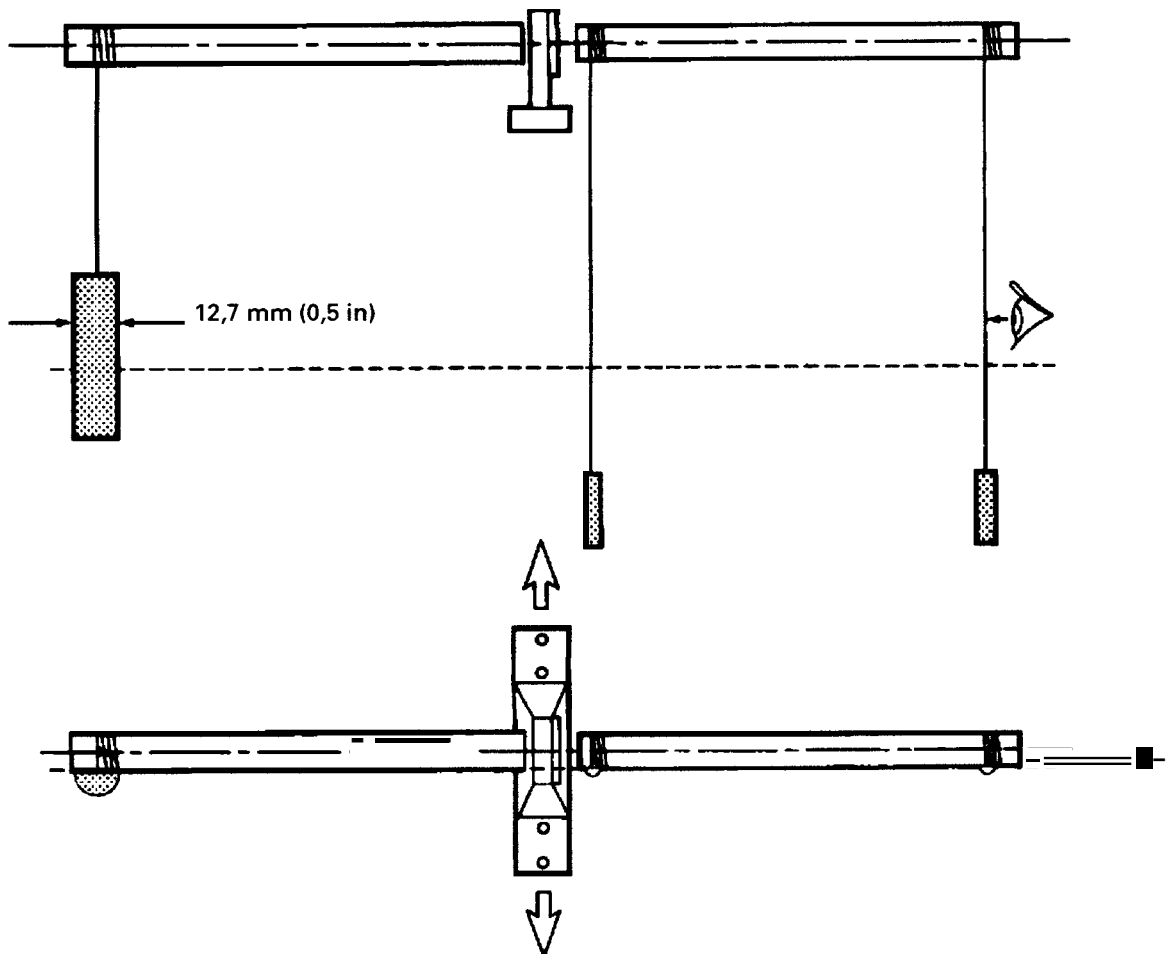

Fig. 1
1. Front section – behind gearbox output coupling, 12,7 mm (0.5 in) diameter weight (1 Fig. 1).
2. Rear section – immediately behind center bearing (2 Fig. 1).
3. Rear section – in front of differential flange (3 Fig. 1)
- Viewed from the rear with the rear 'plumb line' coincidental with the outside diameter of the front weight, the center 'plumb line' should align with the rear 'plumb line' (4 Fig. 1).
- Set the center 'plumb line' to touch the horizontal line by movement of the center bearing (Fig. 1).